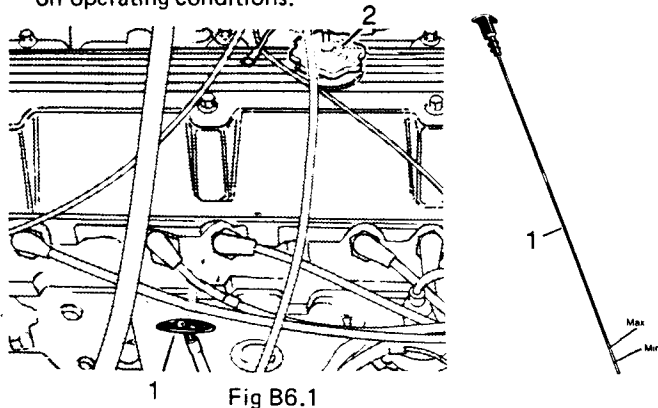

Fig B6.1
- (1) Refer to Fig B6.1. Withdraw the dipstick (1), wipe it with a lint free cloth and reinsert it to its full depth.
- (2) Withdraw the dipstick again and check that the oil level is between the maximum and minimum marks on the dipstick. Reinsert the dipstick.
- (3) If necessary, remove the filler cap (2) and add sufficient oil to take the level close to but not above the maximum mark on the dipstick. Replace the filler cap.
- (4) Under normal circumstances the oil level must never be allowed to fall below the minimum mark on the dipstick.
- (2) Remove the oil filter cap ((2) on Fig B6.1).
- (3) Remove the drain plug (1) and allow all oil to drain from the engine.
- (4) Replace the drain plug, using a new copper gasket.
- (5) Change the oil filter (see paragraph below).
- (6) Refill with fresh oil and check the level as described in paragraph 4.
- (7) Run the engine and check for oil leaks at the filter and drain plug.